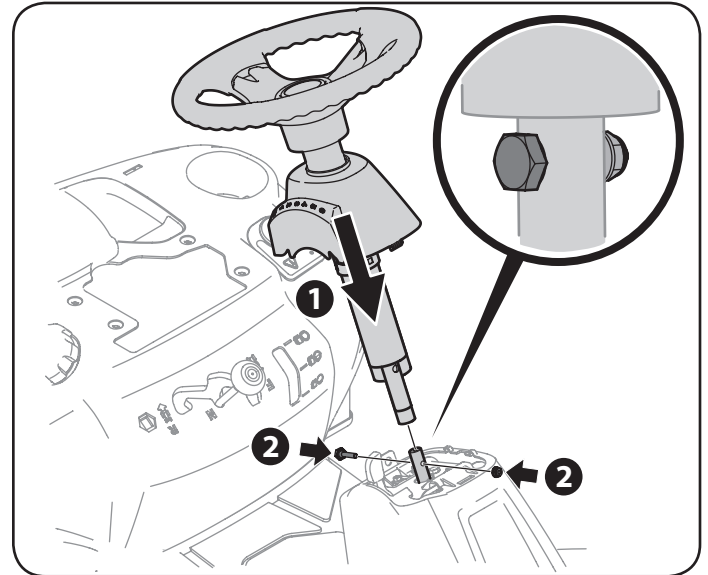

Figure 2
4. Lower the steering wheel assembly onto the lower steering shaft (1) and secure with bolt and lock nut (2) previously removed. See Figure 2.